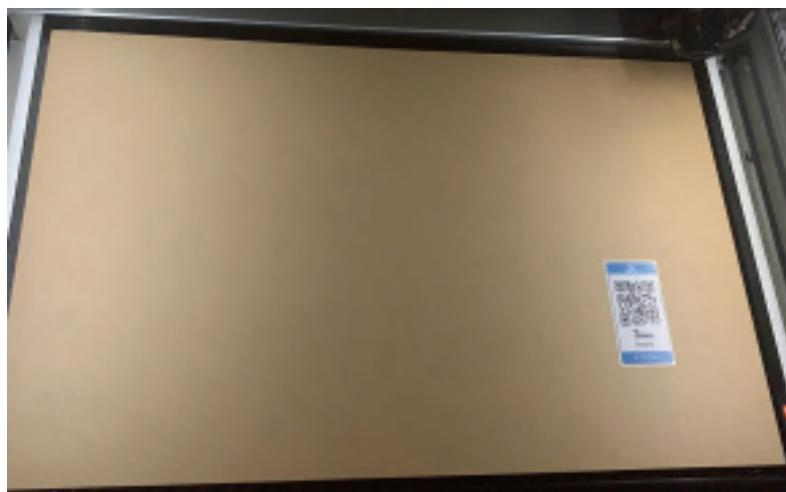

Figure 11
2) Spread a 3mm thick material board on the work table (as shown in Figure 11), close the cover, wait for the button light to automatically turn on green, and then click the button for processing.